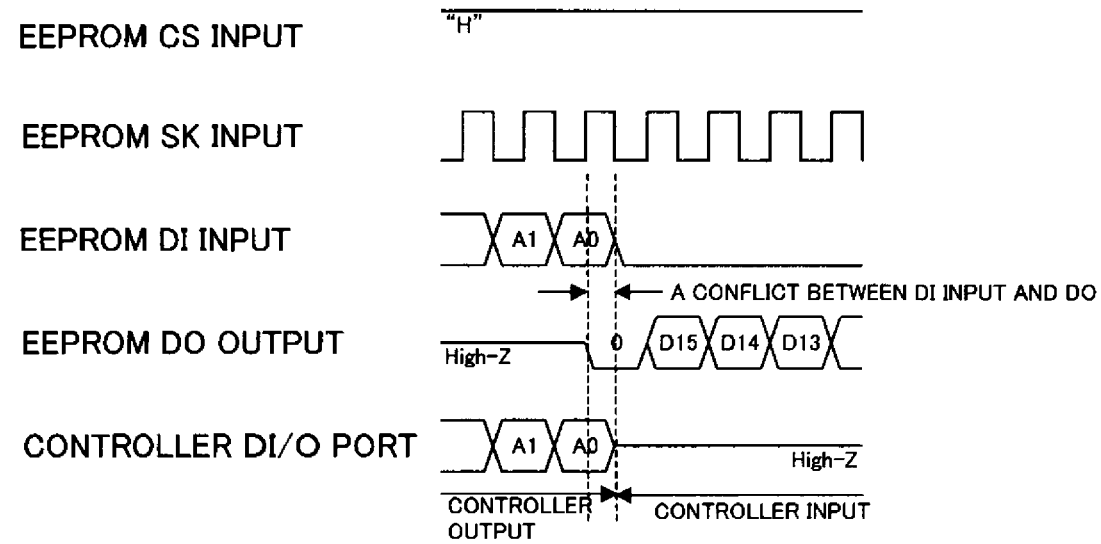

Fig.7-2 DI/O PORT TO CONNECT DI AND DO READ OPERATION
(1) Half clock cycle for A0 (last address bit) in read mode. (See Fig.7-2)